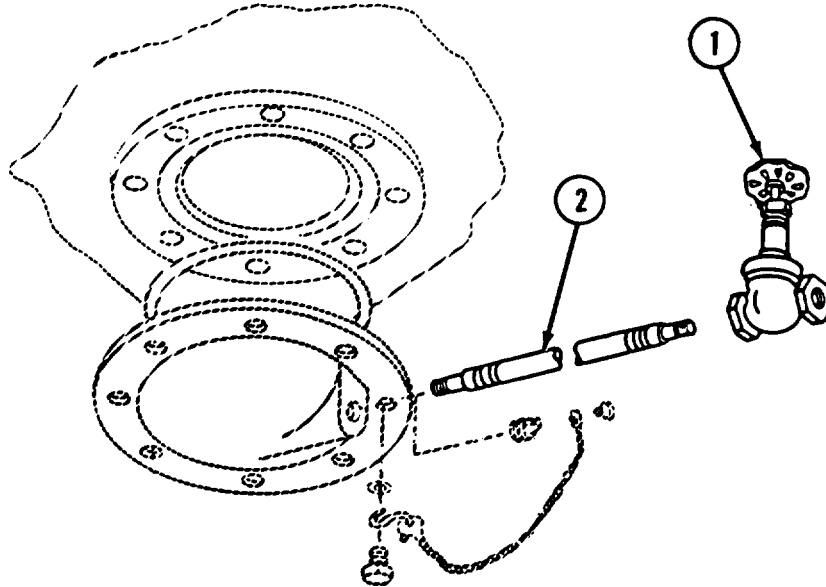

Figure 3-4. Drain Gate Valve
6. DRAIN HOSE ASSEMBLY LEAKS. (See figure 3-4.)